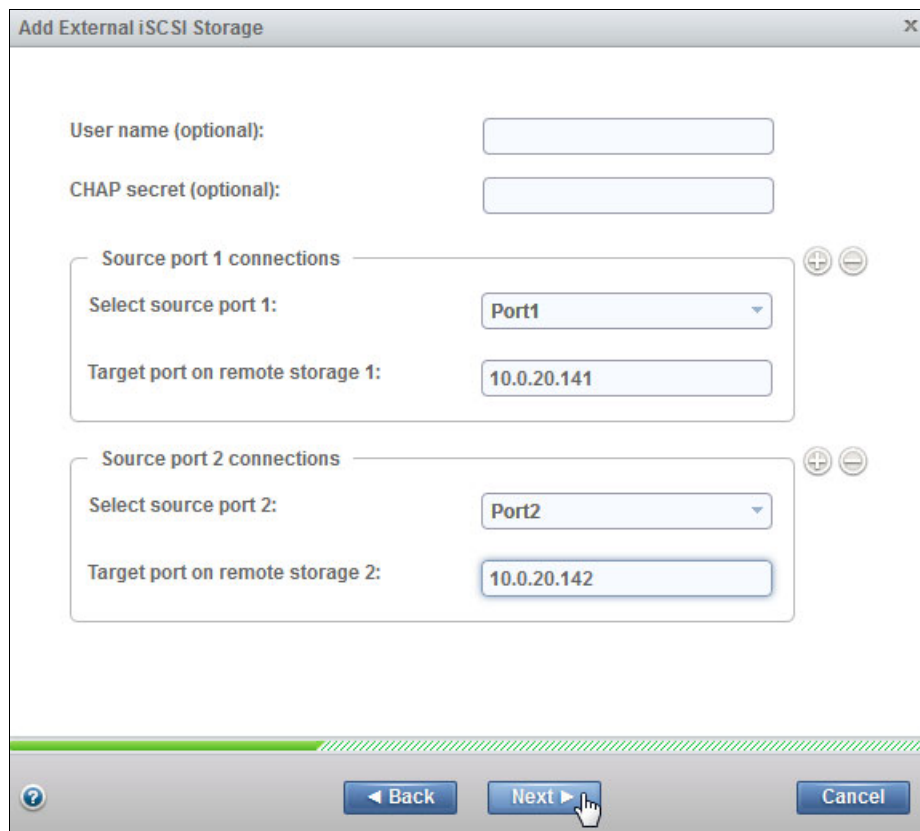

Figure 4-17 Add External iSCSI Storage: Source and Target port
3. Select source port and target port IP addresses and click **Next**, as shown in Figure 4-17. At least two source ports are needed for redundancy.